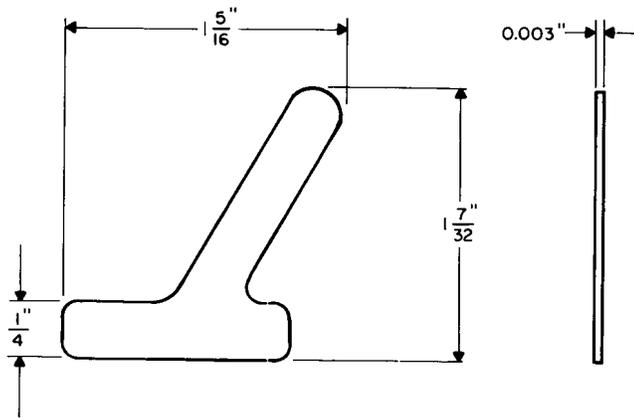

Fig. 13—436A Adjusting Tool
2.13 **436A:** The 436A tool (Fig. 13) is a heelpiece adjusting tool for use on step-by-step type relays.